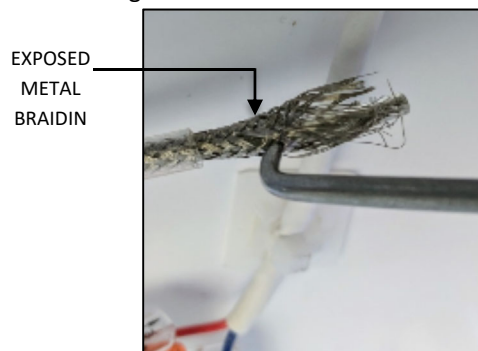
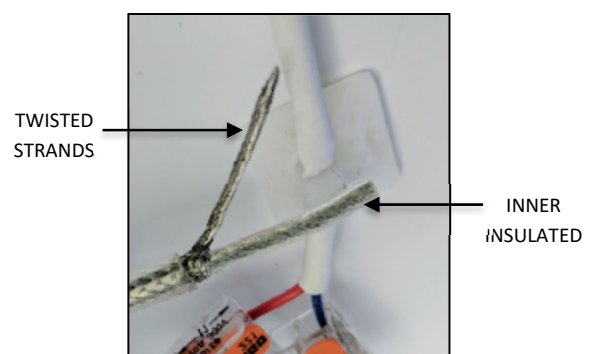

FIG. 16
FIG. 17
2. Using a small pointed object, begin unweaving the exposed metal braiding as shown in FIG. 16 below. Position the unwoven metal strands on one side of the inner insulated wire and twist the individual strands together as shown in FIG. 17 below.